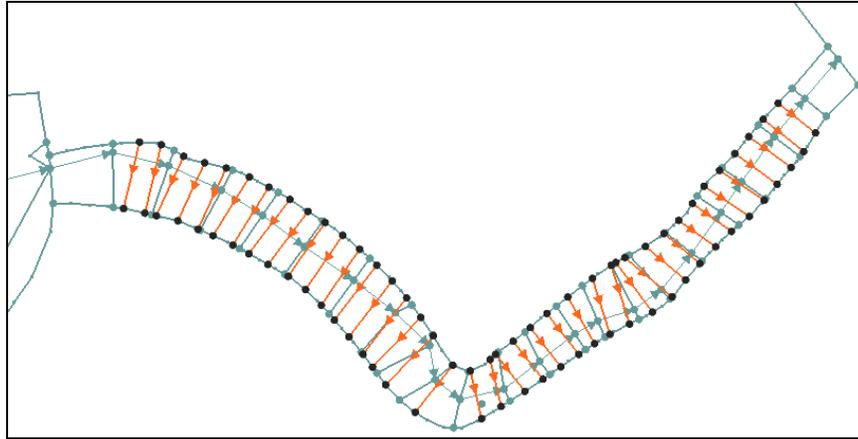

Figure 14 Water level lines
15. (Figure 14, showing once the lines have been removed).
Once all the unneeded or overlapping water level lines have been removed or adjusted, the project should appear similar to Figure 14.